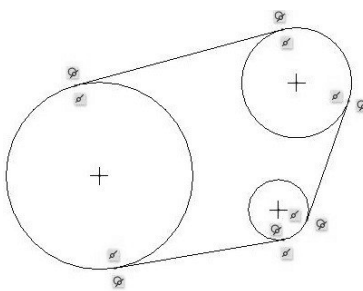

Figure 3-27 Lines Tangent to Circles
Step 13: Use  to draw three tangent lines as shown in Figure 3-27.